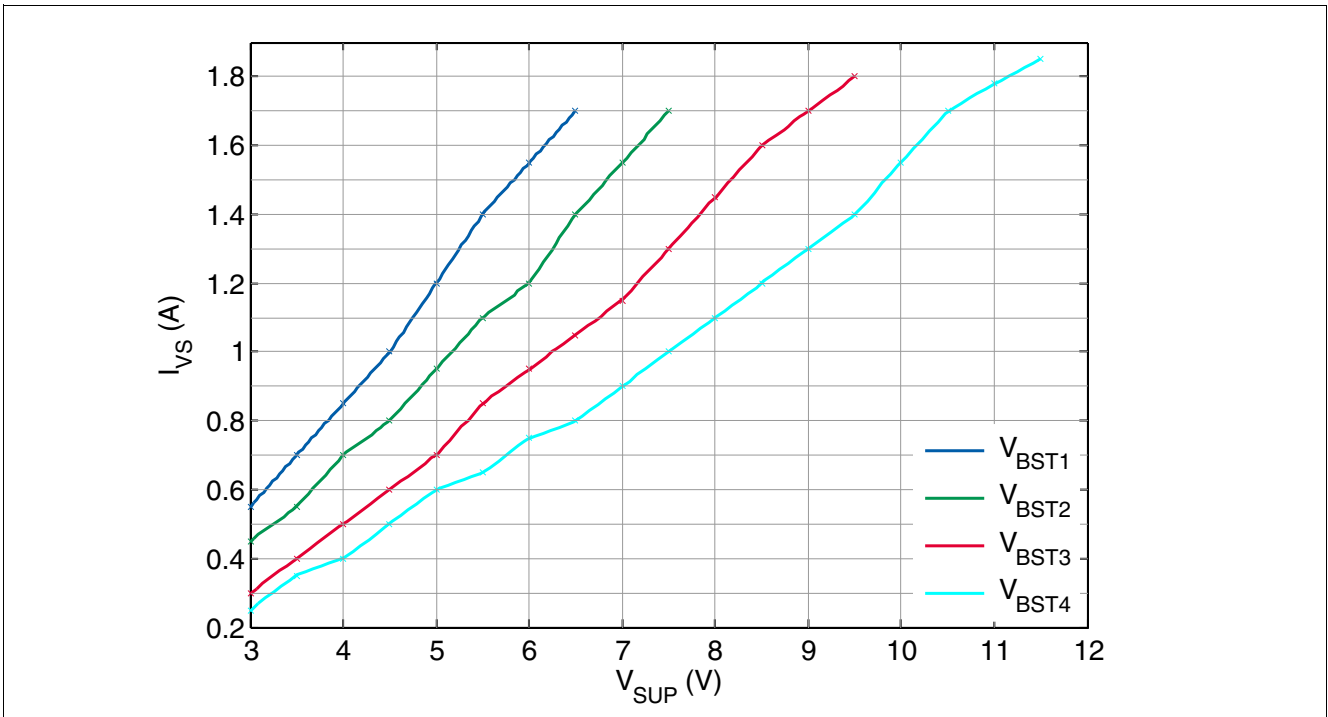

Figure 19 Maximum DCDC Boost current capability versus  $V_{SUP}$
2) Values verified in characterization with Boost converter external components specified in Chapter 14.1. No subject to production test; specified by design. Refer to Figure 19 for additional information.
Note: **Figure 19** is based on simulation results (specified by design), with Boost converter external components specified in **Chapter 14.1**.